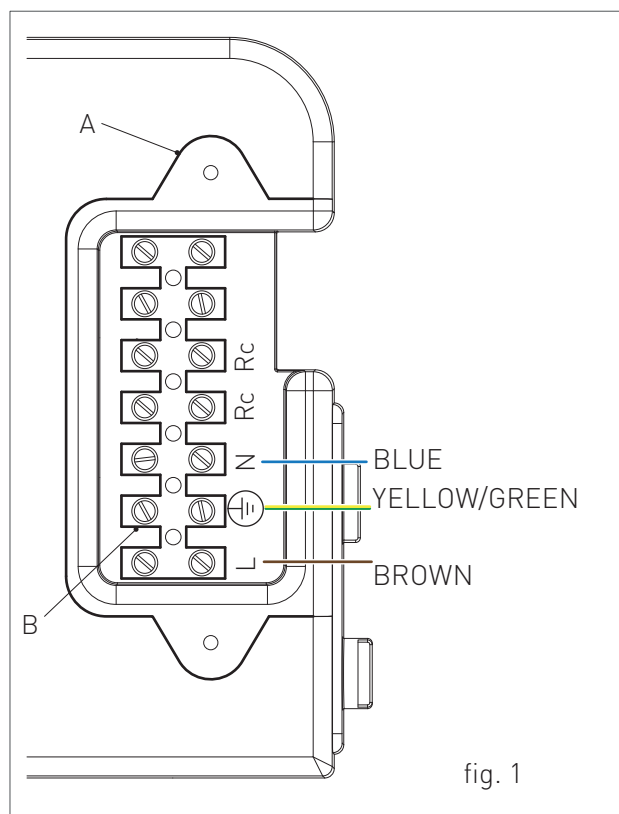

fig. 1
- › loosen the two screws and remove the plate "A" (see fig. 1).
- › after removing the plate, connect the electrical cables to terminal "B" (see fig. 1):
The cables should be inserted inside the water heater using the cable glands 'P1' and 'P2' placed under the board (see fig. 1). Make a hole on the cable gland, smaller than the cable diameter, to make sure that the air cannot pass through.